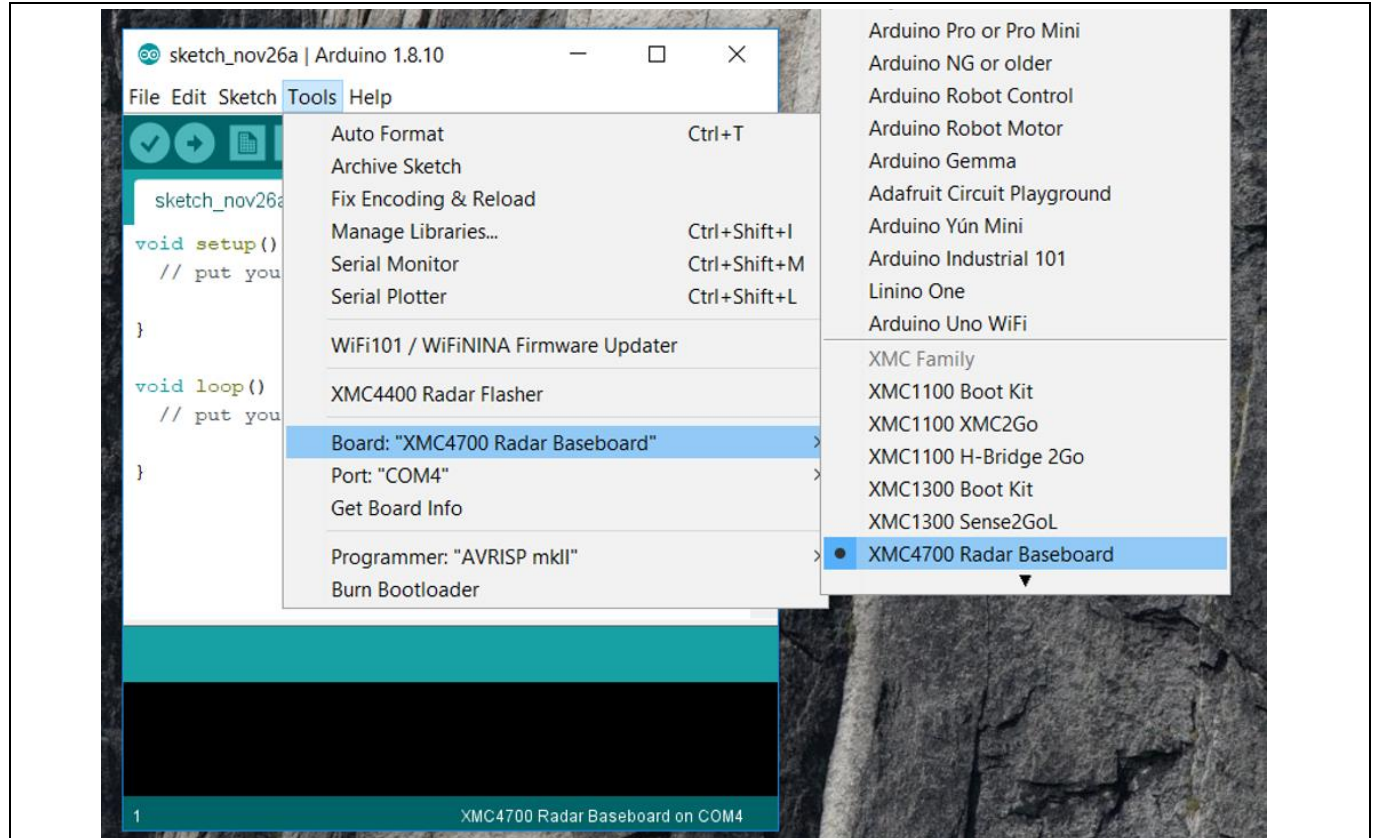

Figure 10 Selecting XMC baseboard
7. Once installation is completed, the XMC-based microcontroller boards can be found and selected under Tools > Board (Figure 10).
2. Navigate to *Tools > Board > XMC4700 Radar Baseboard* (as shown previously in Figure 10) to select the radar baseboard as the target kit.